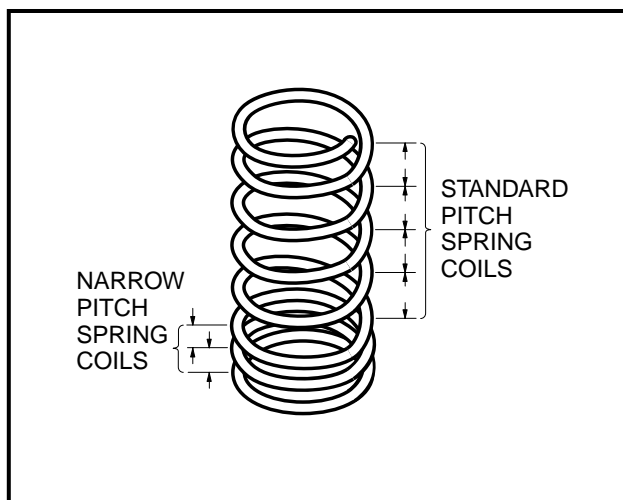

Figure 13-35 Variable-Pitch Valve Spring
- VALVE SPRING COILS ARE CLOSER TOGETHER (HAVE A NARROWER PITCH) AT ONE END OF THE SPRING THAN AT THE OTHER. **SEE FIGURE 13-35, PAGE 13-19.** INSTALL SPRINGS WITH THE NARROW PITCH ENDS ON THE SPRING SEATS.